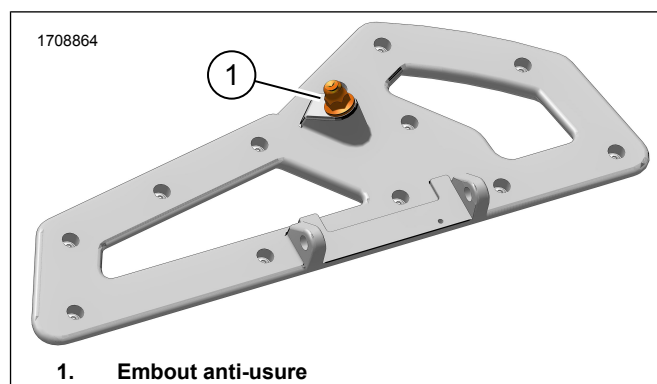

Figure 3. Embout anti-usure de marche-pied (typique)
1. Figure 3 Retirez l'embout anti-usure (1) existant du repose-pied.